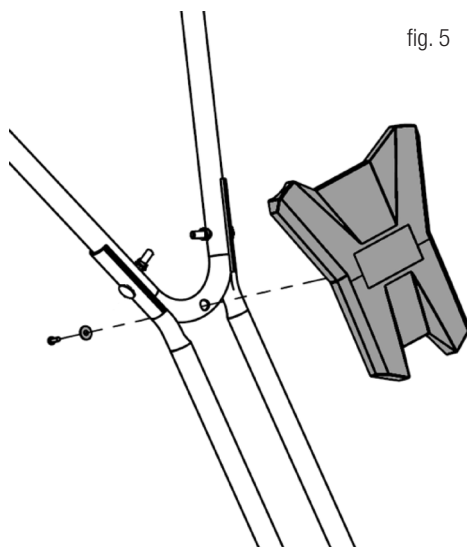

fig. 5
5. Mount the panel as shown in fig. 5.